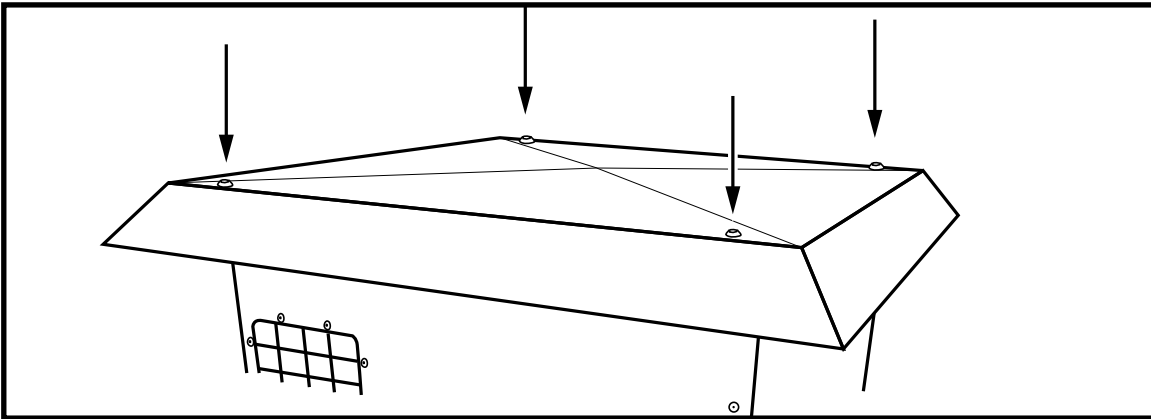

Figure 16: Fan access cover.
1. Remove the 4 hex screws holding the top cover in place (Figure 16) and remove the cover.